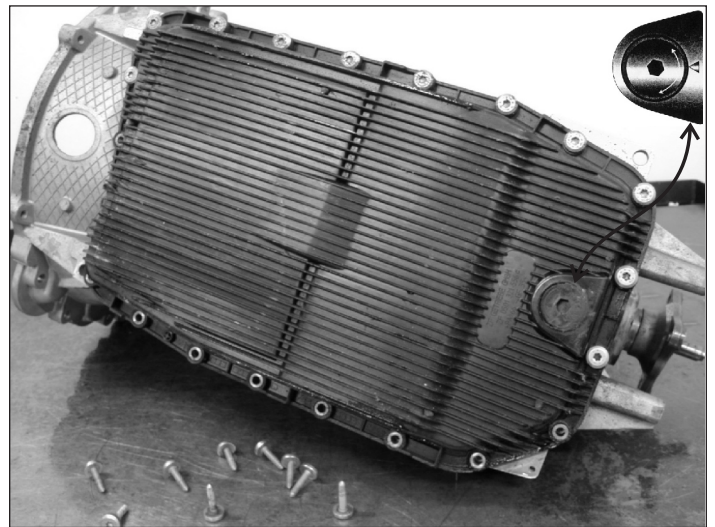

Figure 21
The pan should not be removed at temperatures above 104°F (40°C) as the pan is plastic and **will distort at high temperatures** (Figure 21).
The drain plug has a double ended arrow embossed into it that should be observed in relationship to the arrow embossed into the pan along side the plug. The double ended arrow embossed into the plug indicates its full range of movement. **If over tightened, you will crack or distort the pan** (Figure 21).
**The MV 1 and 2 solenoids** are identified by a **black** cap and contains an inlet, outlet and exhaust port. When the solenoid is energized, the inlet is open to the outlet port and the exhaust is blocked. When the solenoid turns off, the inlet is blocked and the outlet is opened to exhaust (Figure 21).